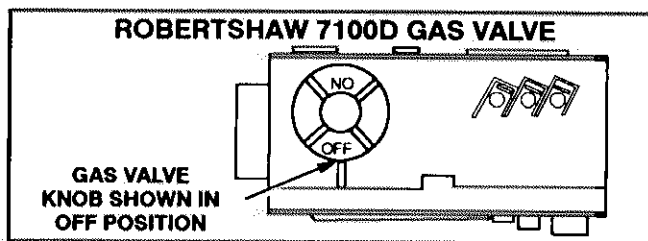

FIGURE 3
Gas Valve Operation (Figures 3 – 5)
- 6— On Robertshaw 7100D and Honeywell VR8204 gas valves, turn knob on gas valve clockwise  to **OFF**. Units with Robertshaw 7200 gas valve, depress lever and move to **OFF** position. Do not force. See figures 3 through 5.